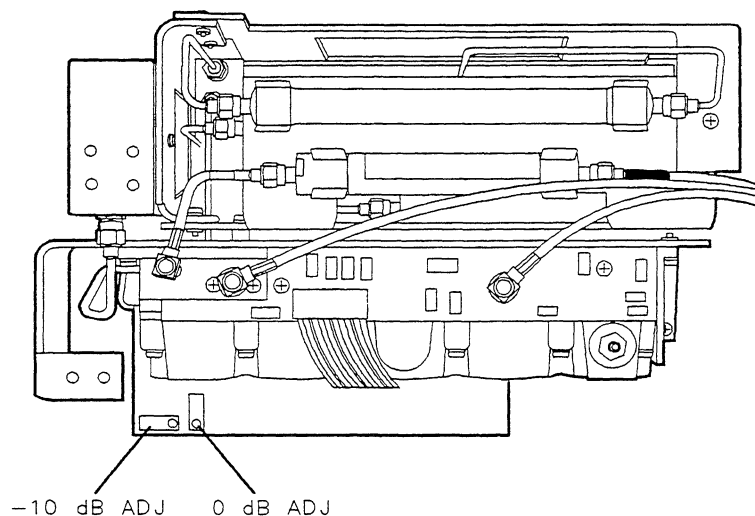

Figure 10-3. BITG Power Level Adjustment Locations
10. Adjust -10 dB ADJ (A3A15R13) for a -20 dBm ± 0.05 dB reading on the measuring receiver. Refer to Figure 10-3 for adjustment location.
- With the SRC PWR level set to -30 dBm, adjust -10 dB ADJ (A3A15R13) for a -30 dBm ± 0.1 dB reading on the measuring receiver. Refer to Figure 10-3 for adjustment location.
- Set the SRC PWR level to -20 dBm. Adjust 0 dB ADJ (A3A15R18) for a -20 dBm ± 0.2 dB reading on the measuring receiver. Refer to Figure 10-3 for adjustment location.